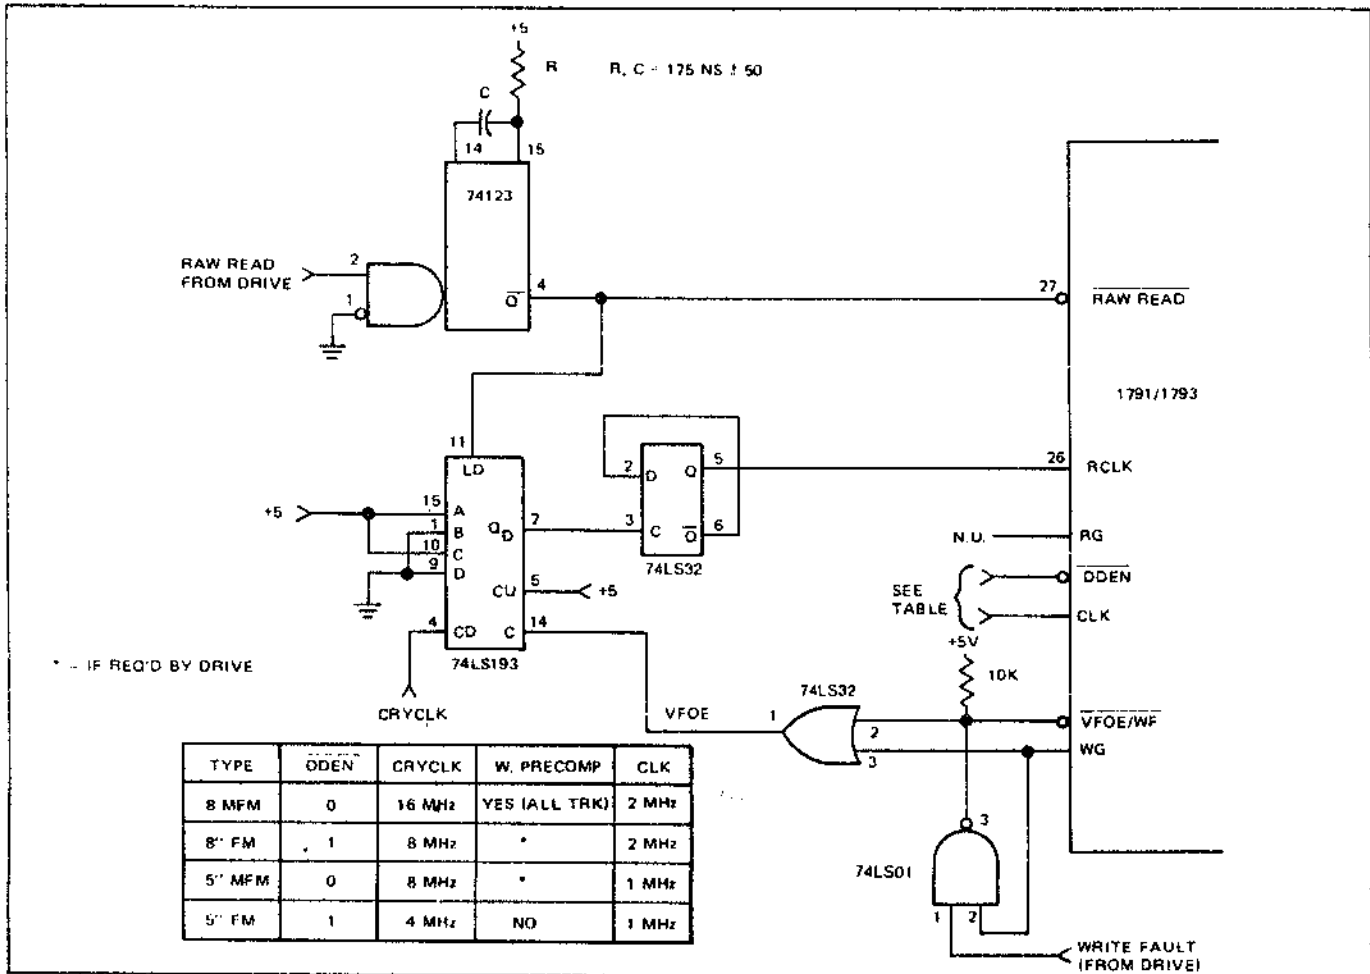
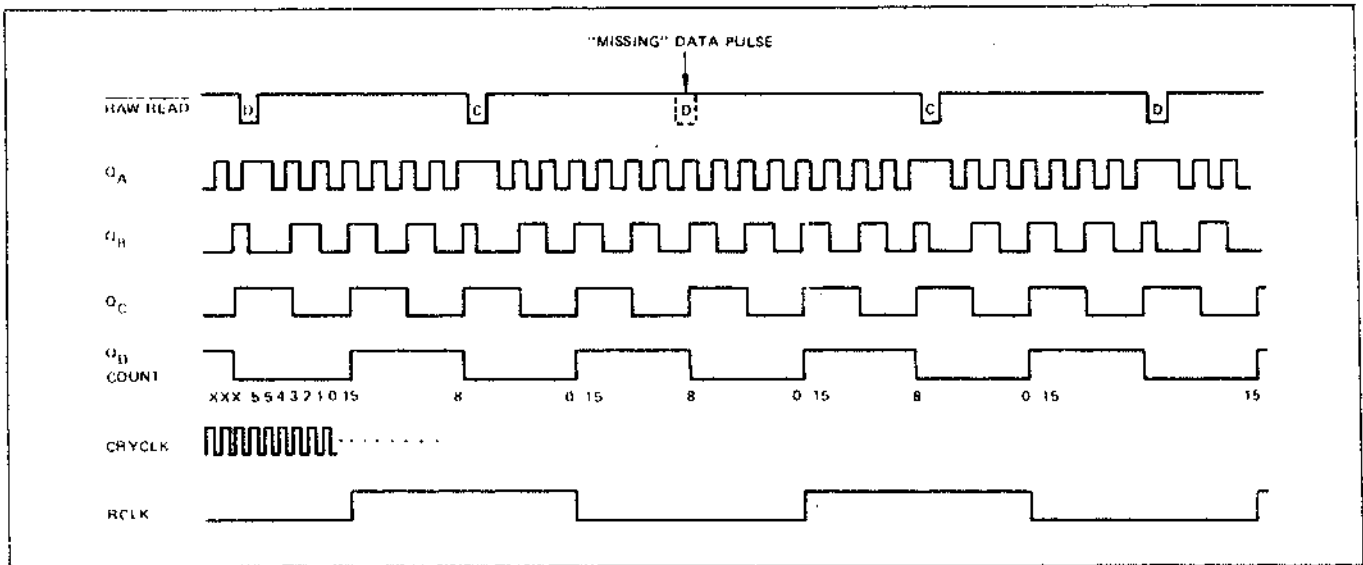

FIGURE 10. COUNTER/SEPARATOR
FIGURE 11. COUNTER/SEPARATOR TIMING (8" FM SHOWN)
Figure 10 illustrates a counter separator. This circuit uses a crystal clock and Read Gate (RG) is not used. Figure 11 shows the timing of the circuit. Any negative RAW READ transition loads the counter with a "5". When the counter counts down to zero, the RCLK flip-flop (74LS74) toggles, producing a RCLK. If the next data bit is zero (no RAW READ pulse), the counter continually counts down until another RAW READ pulse occurs. Then it is loaded again and the process repeats. Many users are using this circuit and are achieving error rates better than 10^{-8} , even for 8" MFM with write precompensation. This circuit may also be used for the 5" mini-floppy. Figure 12 illustrates a phase lock loop method of